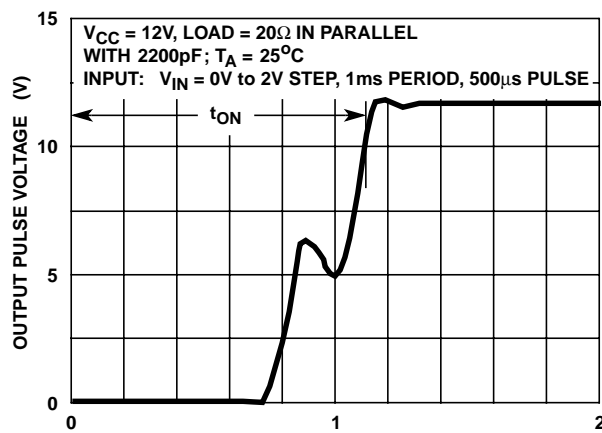

FIGURE 3A. OUTPUT TURN-ON TIME (μ s)
5. Refer to Figures 3A and 3B for typical switching speeds with a 20 Ω Load.